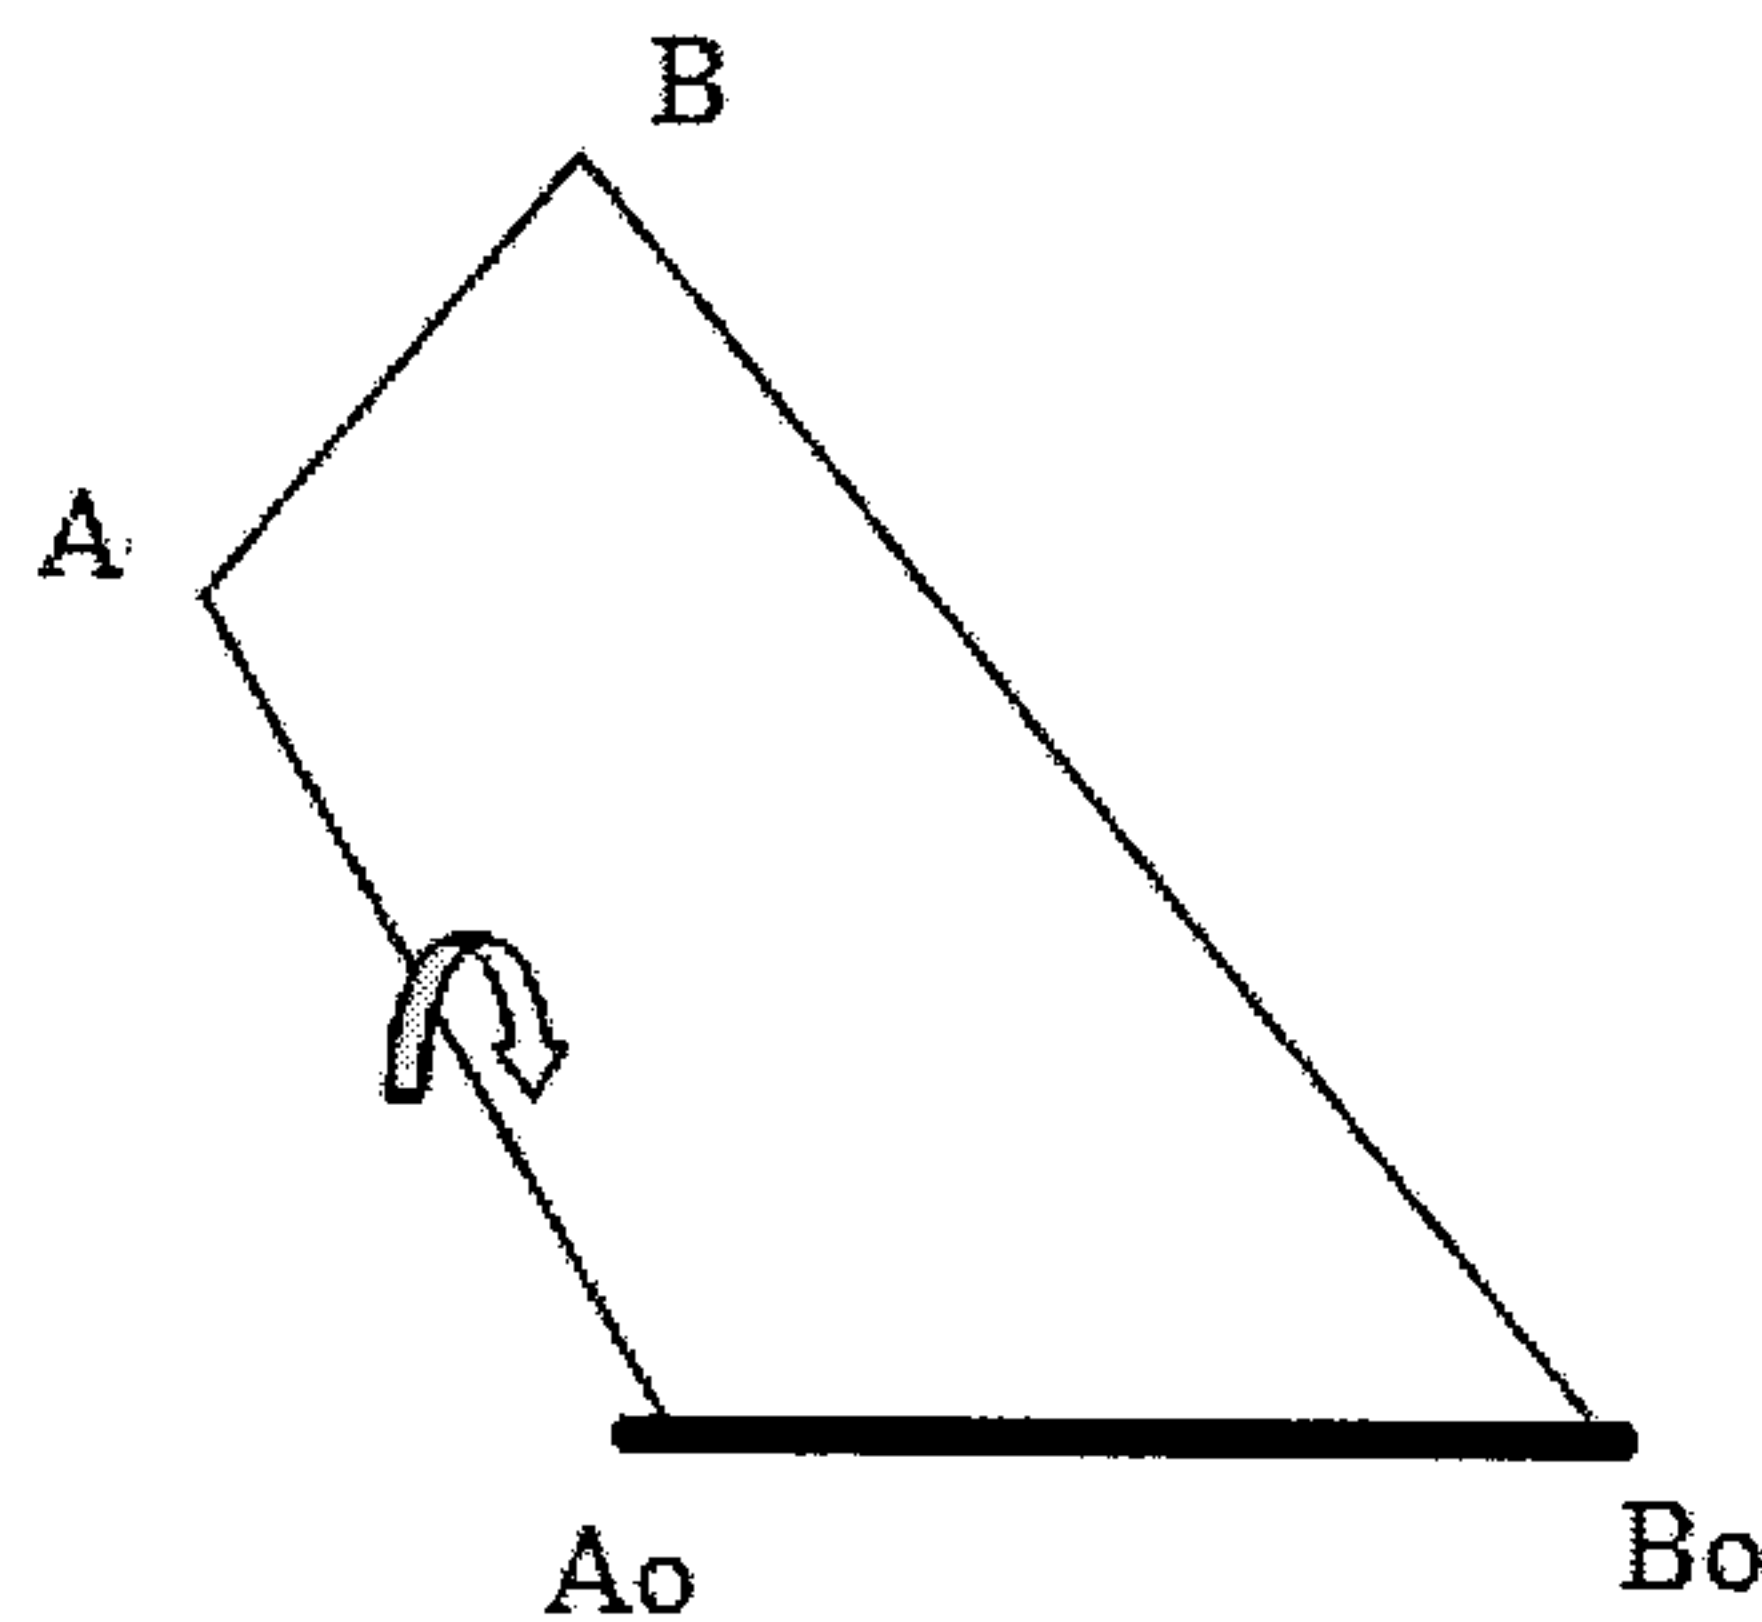

Fig.2
- b. The mechanism shown in Fig.2 has  $AoBo$  fixed and is driven by turning  $AoA$ . Find out geometrically the maximum and minimum transmission angles.  $AoBo = 6$  cm,  $AoA = 4$  cm,  $AB = 3$  cm and  $BoB = 8$  cm. 6